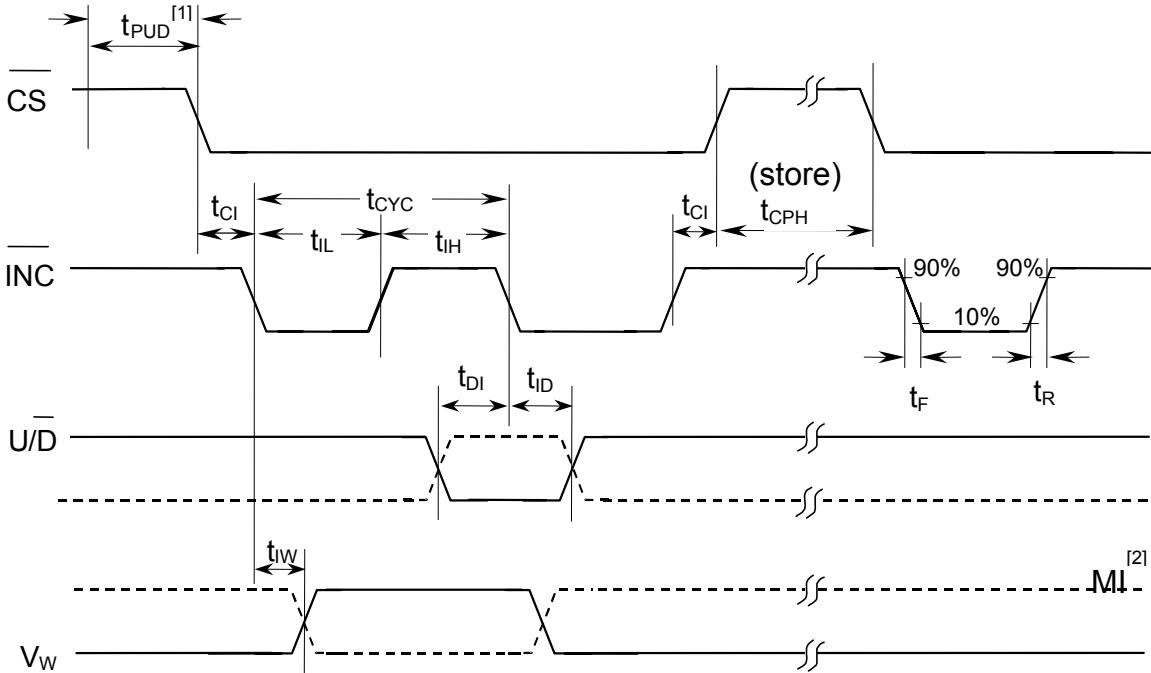

FIGURE 3 –WMS7110/1 TIMING DIAGRAM
- [2] MI in the AC Timing diagram (Figure 3) refers to the minimum incremental change in the wiper output due to a change in the wiper position.